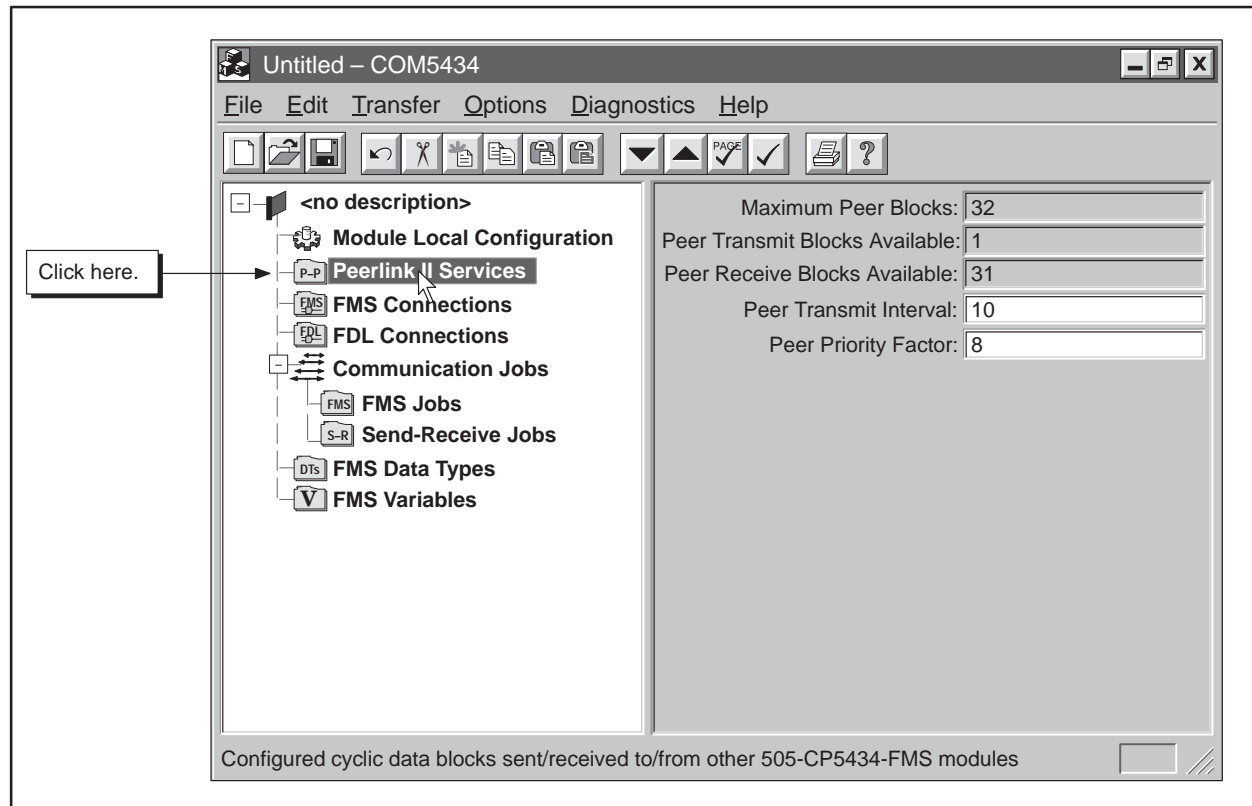

Figure 5-9 Peerlink II Services Available
**Peerlink II Services** The FMS CP module supports a maximum of 32 Peerlink II services, as shown in Figure 5-9. The FMS CP module transmits and receives data (in the form of peer blocks) to and from other SIMATIC 505 FMS CP modules on your network on a scan-by-scan basis. When you click on Peerlink II Services on the configuration tree, the COM5434 Configurator displays the number of Transmit and Receive blocks available.